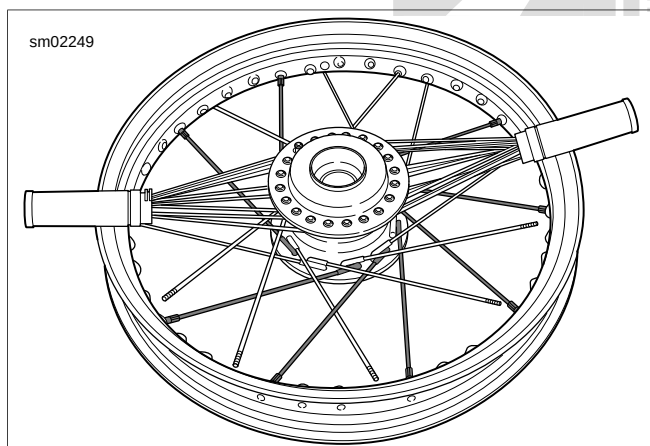

Figure 2-35. Completed Spokes: Bottom Flange Outer
- b. See Figure 2-35. Once you have completed lacing the bottom row of outer spokes (short head) double check for three empty holes in between each spoke.